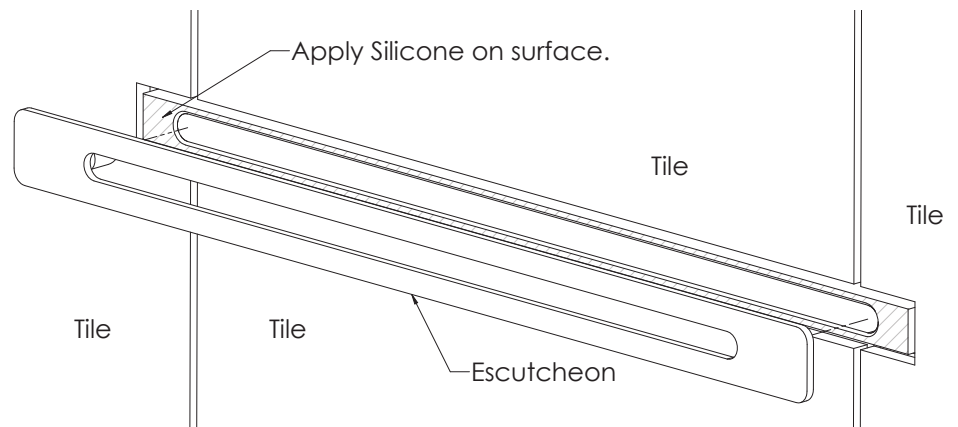

Figure 12
- Apply silicone to the front surface of Linear Steam Head. (see fig. 12.)
- Securely press Escutcheon into the opening of Linear Steam Head. (see fig. 12.)